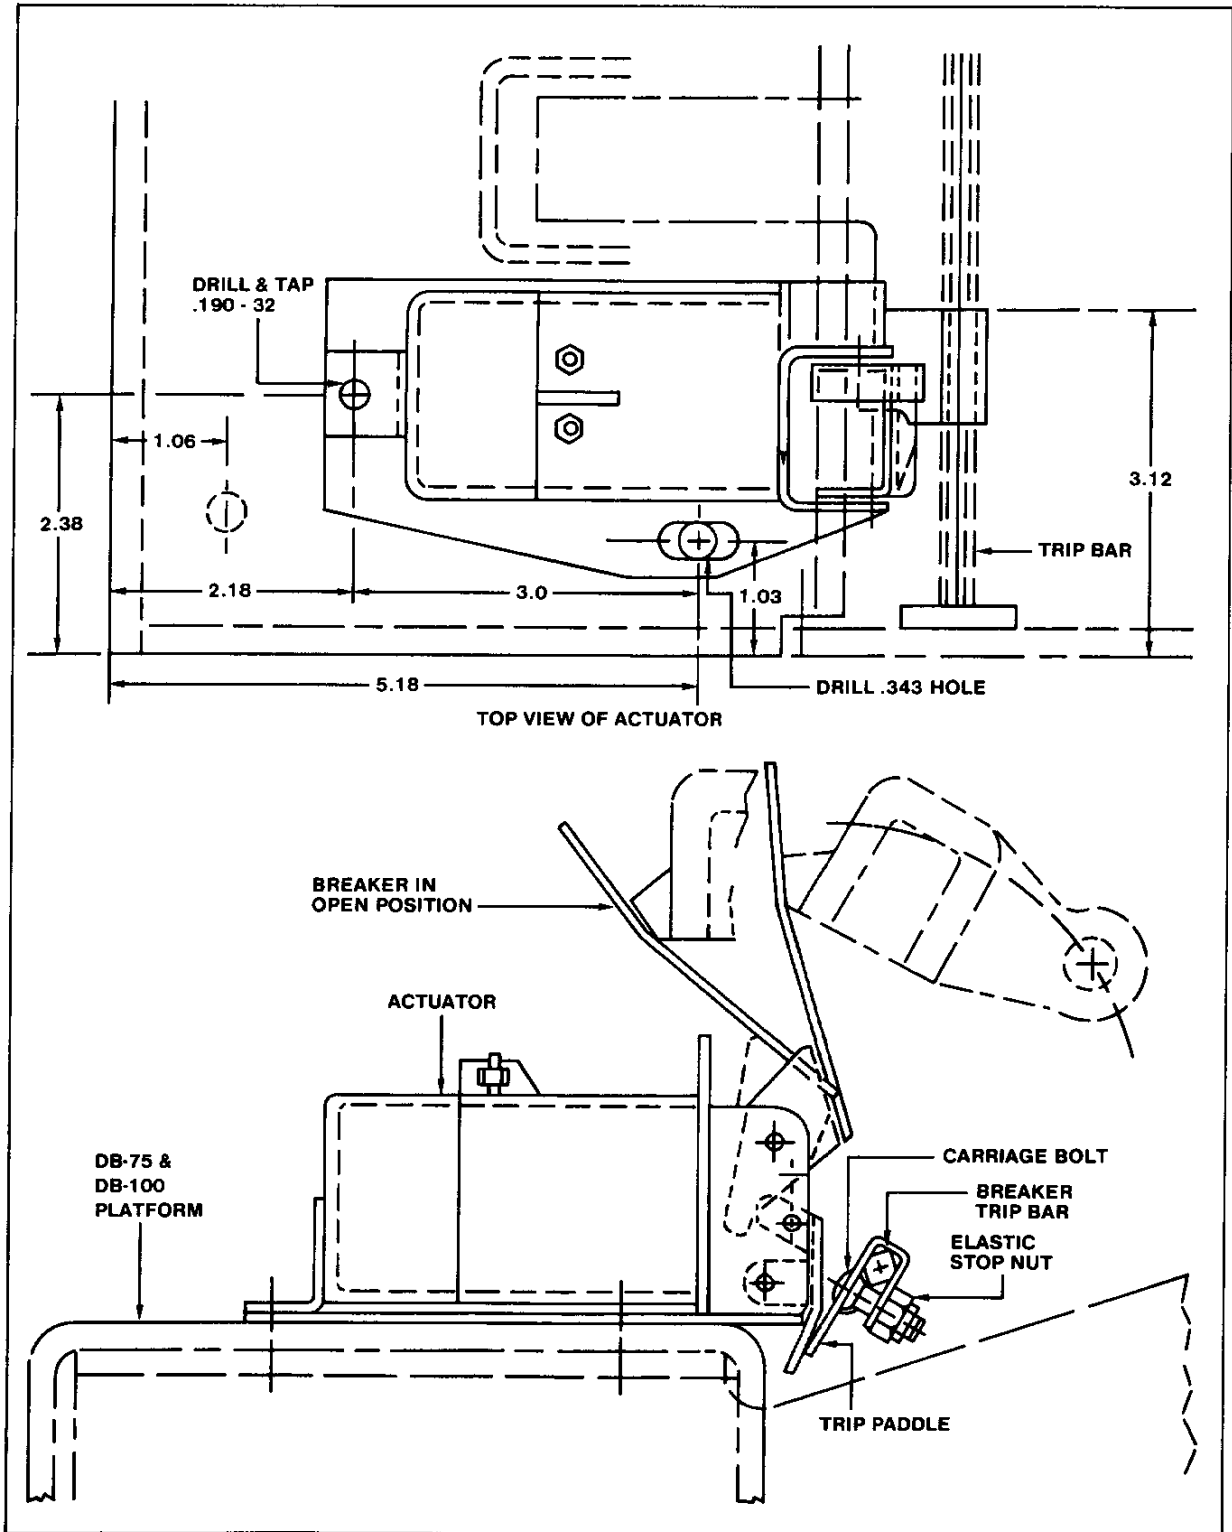

Fig. 26 Positioning of Actuator Relative to Trip Bar DB-75/100
1. Position and assemble trip paddle on breaker trip bar using .25-20 x .75 carriage bolt, trip bar finger and elastic nut. Left edge of paddle should be 3.12" from side of platform, Figs. 26 and 27.
2. Drill a .343 hole in platform base after you have properly positioned the actuator on the platform per Figs. 26 and 29. Hole is approximately 5.18" from the front of the platform and 1.03 from the side of the platform. Secure the actuator with a .312-18 x 1.0 screw, nut and washers.
4. Drill and tap .190-32 hole in breaker platform 2.18 from front and 2.38 from right side of platform, Figs. 26 and 29 and temporarily secure actuator parallel to the platform with "L" bracket in place using .190-32 x .75 screw, nut and washers, similar to Fig. 13.